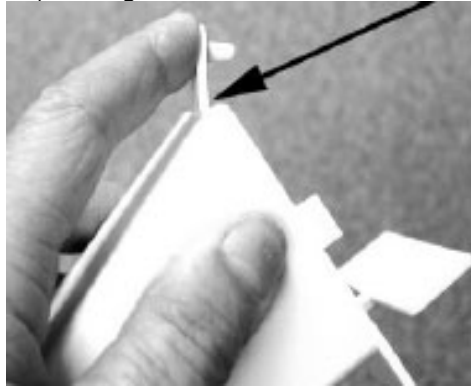

Figure 1
- Using your finger remove the icemaker air tunnel coil cover-locating tab (this is only used on current production models) See figure 1.